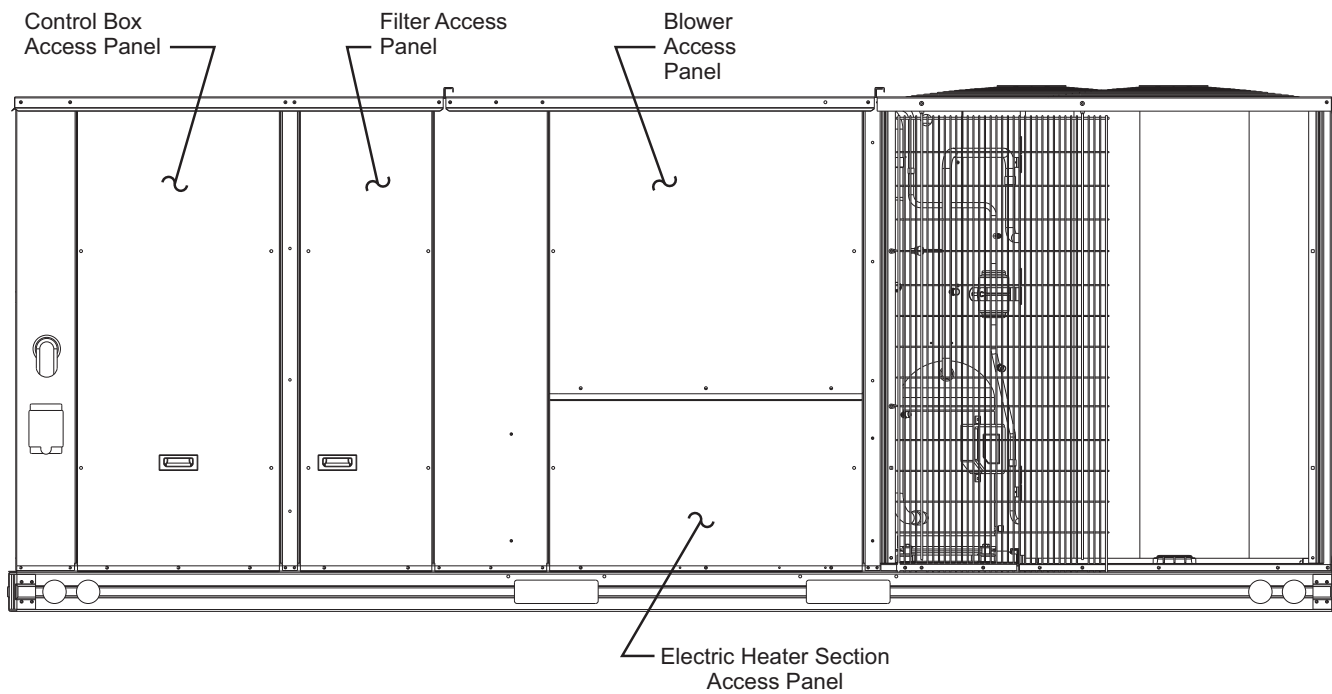

Fig. 46 — Typical Unit — Access Panel Locations
2. Remove electric heater section access panel, control box access panel, filter access panel, and blower access panel from base rooftop unit. (See Fig. 46.)